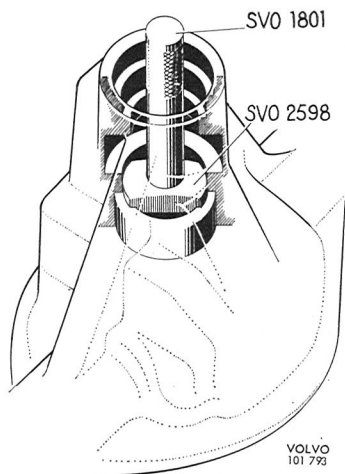

Fig. 4-156. Rear pinion bearing race removal
9. If necessary, drive the rear bearing out of position, see Fig. 4-156. Use standard handle 1801 and drift 2598.